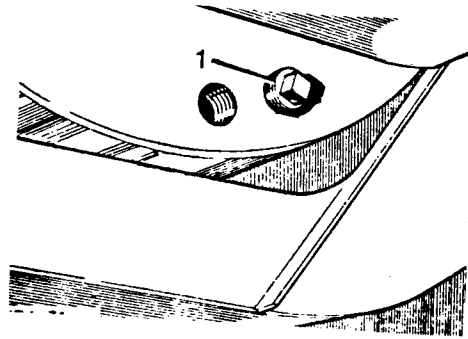

Fig B6.5
10. Refer to Fig B6.5. The flywheel housing can be completely sealed to exclude mud and water under severe wading conditions, by means of a plug (1) fitted in the bottom of the housing. The plug (1) is screwed into a hole adjacent to the drain hole and should only be fitted when the vehicle is expected to do wading or very muddy work.